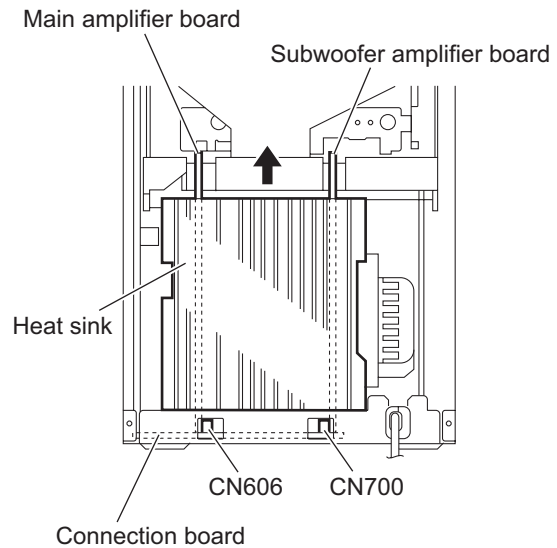

Fig.16
- (2) From the back side of the main body, disconnect the connectors (CN600, CN700) on the main amplifier/subwoofer amplifier boards from the connection board in the direction of the arrow. (See Fig.16.)